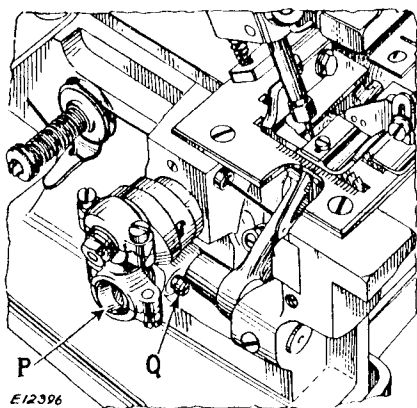

Fig. 11.
A variation in the amount of the looper motion can be obtained by adjusting the ball stud (P, Fig. 11). To increase this motion, loosen the set screw (Q) in the looper lever and move the ball stud (P) inward, or toward the looper lever. To decrease the motion, move the ball stud outward, or away from the looper lever.